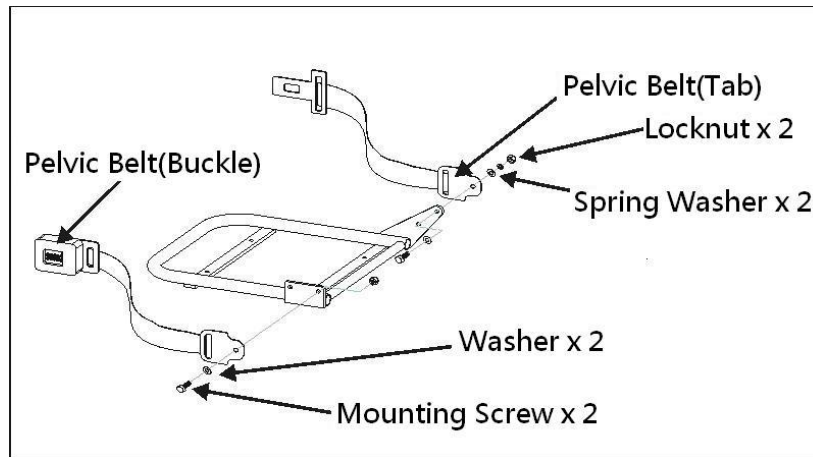

FIGURE 7.6
7.12 Installing a Pelvic Belt (See Figure 7.6)